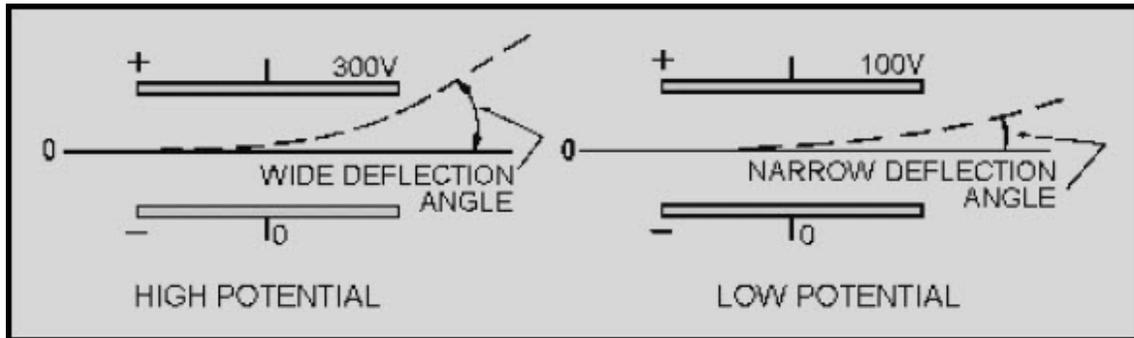

Figure 6-5 Differences of potential
**DIFFERENCE OF POTENTIAL** - The potential on the plates (figure 6-5) can be varied to cause a wider or narrower deflection angle. The greater the potential, the wider the deflection angle.